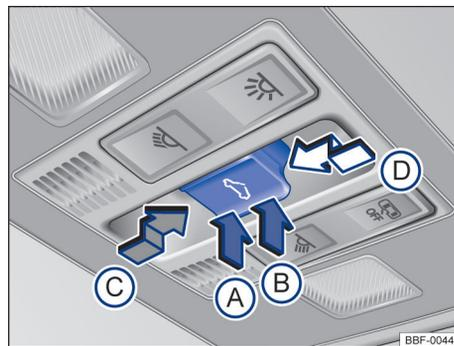

Fig. 59 Headliner: sunroof and sun blind buttons.
- *Lift the sunroof:* press button → Fig. 59 (B) until the first stage. One-touch action: press button (B) until the second stage.
- *Close the lifted sunroof:* press button (A) until the first stage. One-touch action: press button (A) until the second stage.
- *Open sunroof:* press button (C) until the first stage. One-touch action until the convenience position: press button (C) until the second stage.
- *Close the sunroof:* press button (D) until the first stage. One-touch action: press button (D) until the second stage.
- *Stop opening/closing one-touch action:* press button (C) or (D).
- Press the  button down to the second stage → Fig. 59 , until the sunroof is completely closed.